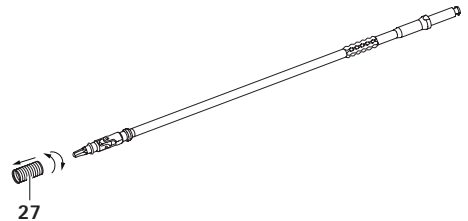
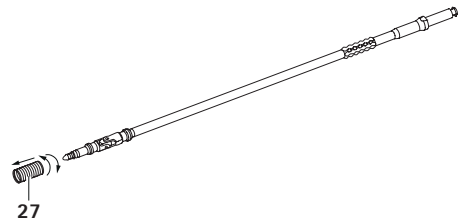
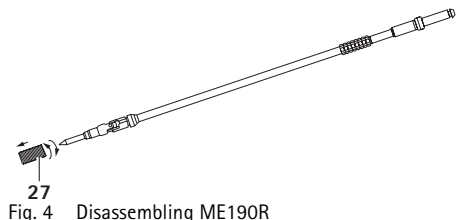

Fig. 2 Disassembling ME014R
Fig. 3 Disassembling ME018R
Fig. 4 Disassembling ME190R
- ▶ Remove the spring **27** covering the u-joint from the distal end of the shaft, see Fig. 2, see Fig. 3 and see Fig. 4.